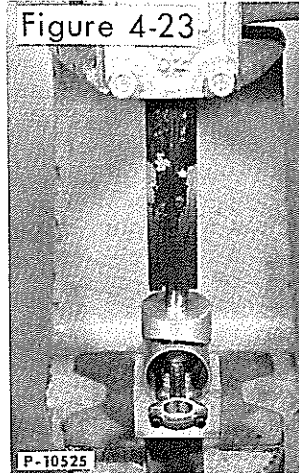

Figure 4-23
5. Place the second bearing, closed end up, on the piston. Place the short leg of the guide on the bearing (Figure 4-23) and press gently into place until the guide is just flush with the surface of the piston. Recheck movement of the connecting rod.